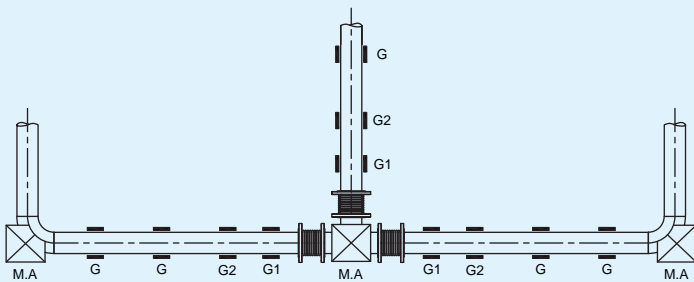

Figure 1.3
Figure 1.3 typifies good practice in the use of Expansion Joints to absorb axial pipe line expansion in a pipe line with a branch connection. The anchor at the junction, which in this case is a tee, is a main\*anchor (M.A) designed to absorb the thrust from the Expansion Joint in the branch line. Note the nearness of each Expansion Joint to an anchor, the closeness of each first alignment guide (G1), the spacing between the first alignment guide and the second alignment guide (G2) and the spacing of intermediate guides (G) along the balance of each pipe section.